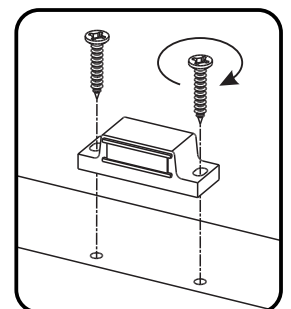

Figure 5
Attach 2 pcs. of **06** to Front Rail (X) by inserting 4 pcs. of **07** into pre-drilled holes, then tighten. (See Figure 5)